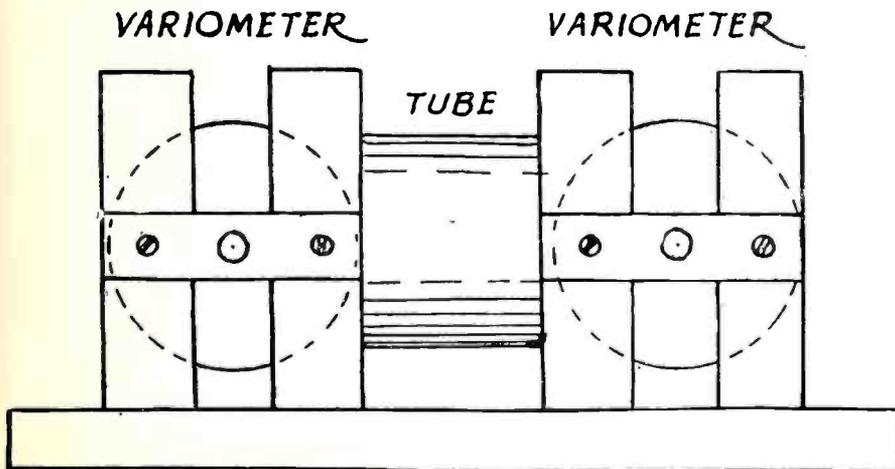

Figure 1
Figure 1 shows how the two coils constituting the primary and secondary are placed side by side and mounted on a cardboard mailing tube. About one-eighth inch separation is allowed between the coils, but this is not a critical value. A fixed condenser (K) is connected across the ends of the primary coil only to increase the natural wave length of the coil and to reduce its size. The number of turns in the primary and the corresponding size of the condenser (K) for a given wave length can be determined from the table of impedances just given. In this case, where both coils are of the same size, the transformer ratio is of course 1 to 1, but if a higher ratio is desired the number of turns in the secondary can be increased but the size of the primary remains unchanged as this depends upon the wave length.
Figure 1. Back panel layout and working drawing of the Koppasch circuit. The remarkable results obtained with this receiver make it highly popular among broadcast listeners. The secret of this circuit lies in the manner of connecting the variometers, and the clever use of the antenna inductance.
Figure 1 shows how this mounting is accomplished, as does the accompanying sketch.
After you have assembled this list of apparatus, lay the panel out according to the sketch shown in Figure 1. The tuner shows how simple the general layout of the set is. If you wish, suit your own individual taste in the matter, so long as the foregoing requirements are kept in mind.
in Figure 1. With another piece of waxed string, fasten this coil to the wooden shaft or stick which has been boiled in paraffine, as also shown. This completes coil A.
To wind coils B and C is a little harder. Procure 14 steel pegs (finishing nails without heads will do) and set them in a 4 inch circle as shown in Figure 3. Starting at peg No. 1, with the remaining No. 16 DCC wind around peg No. 4, skipping 2 and 3, from 4 to 7 inside of 5 and 6 and so on as shown. Coil B should have from 45 to 50 turns. This number will vary, due to the fact that hand wound coils cannot be made uniform. In all probability some of the No. 16 wire will be left over, and this can be slipped into spaghetti tubing for wiring. The coil is bound up in the same manner as was coil A, with the wax thread, and is supported by winding the wax thread firmly around a heavy piece of cardboard and mounting the entire coil and cardboard on two small blocks as shown at B, Figure 1.